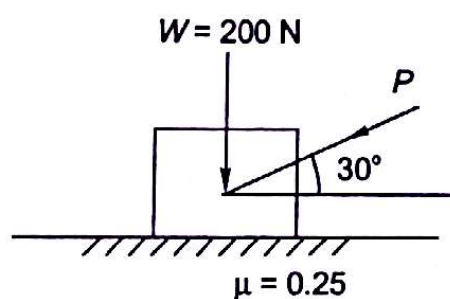

Fig. 6.25
- 6.2 A block weighing 200 N is lying on floor. Coefficient of friction between floor and block is 0.25. A pushing force P is applied on block as shown in Fig. 6.25. What is maximum value of P so that block starts sliding?